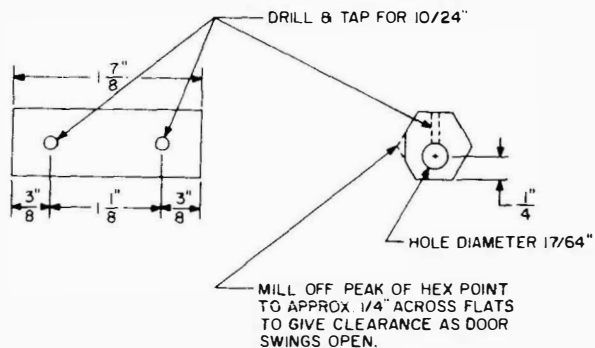

Figure 1. Replacement Hinge Dimensions.
2. Cut off 1-7/8 inch brass stock and drill the 17/64 inch hole as shown in figure 1.